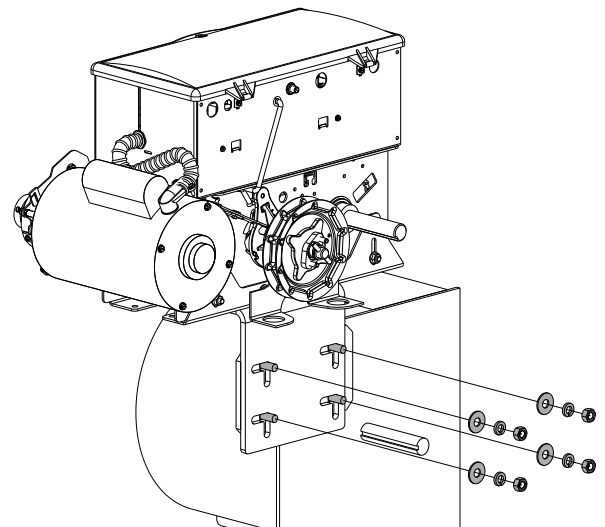

Fig. 4
- 5) Attach operator assembly to weld plate using hardware provided. Do not tighten. Fig. 4